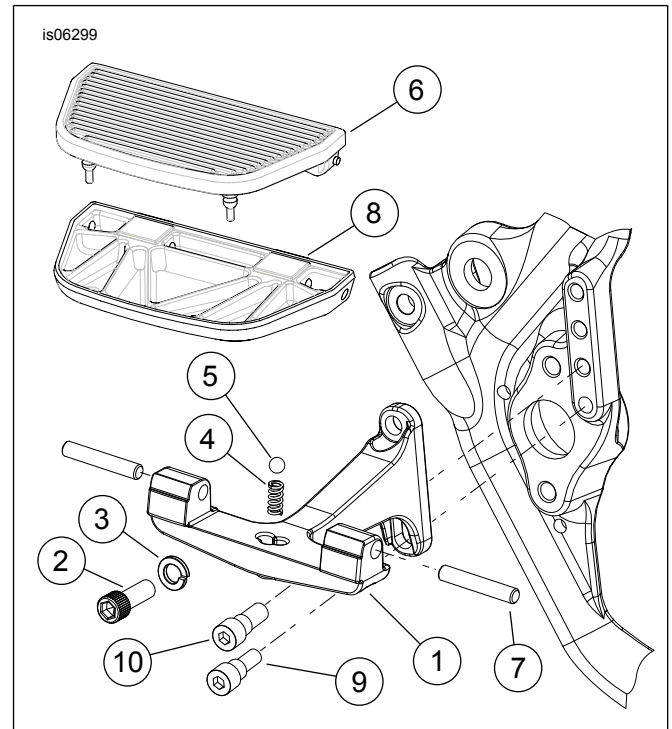

Figure 1. Service Parts: Touring Passenger Footboard Kit
See Figure 1 and Table 1.
1. See Figure 1. Insert shoulder bolt (9) or (10) through slot in footboard bracket (1). Tighten the bolts to 5–8 N·m (48–72 in-lbs).
- a. **2010 and Later Models:** Thread the 5/16 inch shoulder bolt (9) into the **lowest** hole in the rear swingarm bracket of the frame.
- b. **2009 and Earlier Models:** Thread the 3/8 inch shoulder bolt (10) into the **second lowest** hole in the rear swingarm bracket of the frame.
2. At the desired height, install the upper screw (2) and lockwasher (3) through footboard bracket (1). Tighten screw to 49–56 N·m (36–42 ft-lbs).
3. See Figure 1. Install spring (4) into retaining hole in footboard bracket. Set the ball (5) on top of spring.
4. Position the detent in the bottom of the footboard pan (8) over ball in footboard bracket. Be sure not to unseat the ball. Press down on footboard pan so the holes of the footboard pan and footboard bracket align.
5. Insert pivot pins (7) through two mounting holes on footboard bracket and into footboard pan.